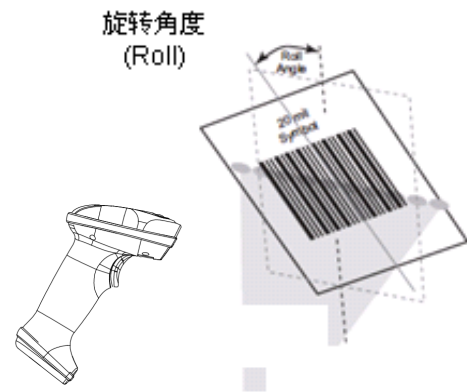

Fig. 1-12
- ◇ Roll :  $\pm 30^\circ$ ,  $0^\circ$  Pitch and  $0^\circ$  Skew (Fig. 1-12)